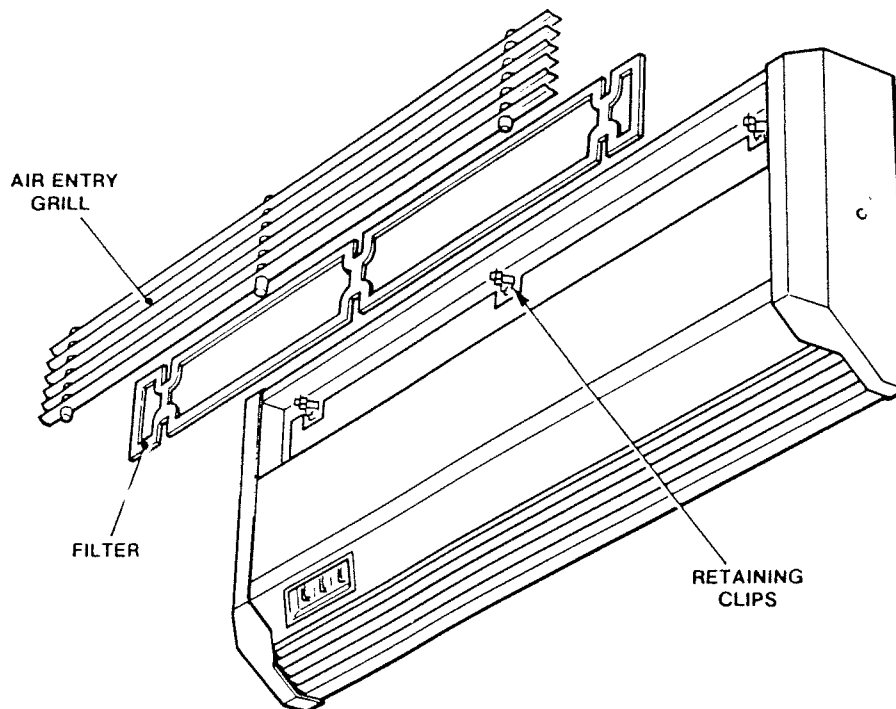

Figure 11
2. Pull air entry grille out of retaining clips and remove from unit. (See fig. 11 ).